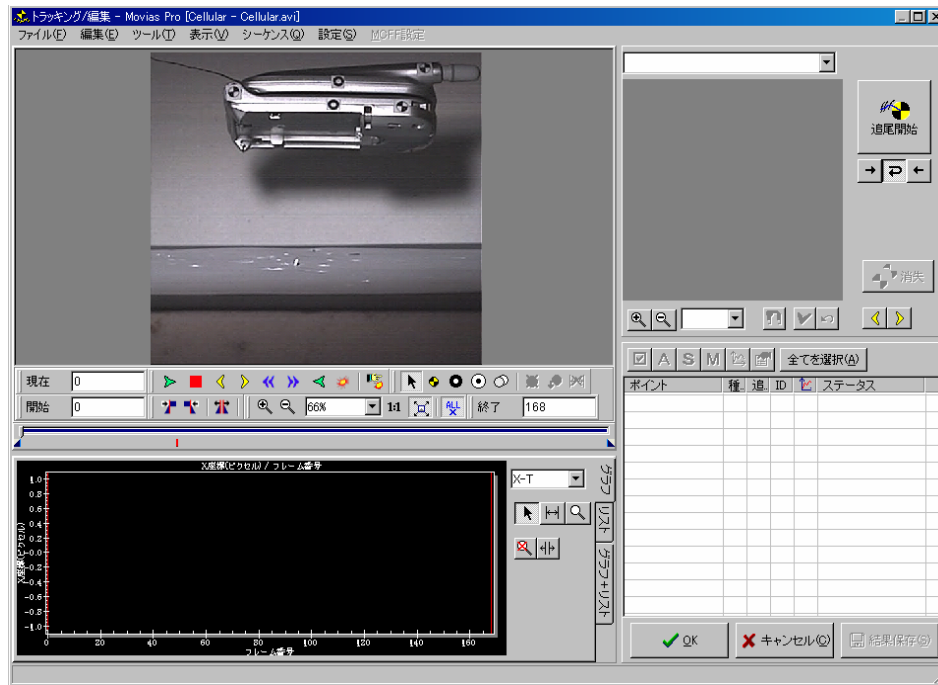

Figure 19 Tracking Window
When a new sequence is created, the tracking window (Figure 19) that performs automatic tracking is displayed.
- Click “OK”. The calibration screen will close and return to the tracking window from Figure 19.